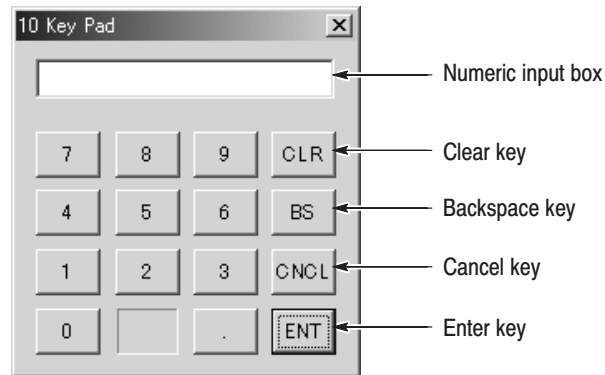

Figure 2-6: 10 key Pad
Numeric Input Using the 10 Key Pad. Perform the following procedure to input numeric values by using the 10 Key Pad. Figure 2-6 shows the 10 key Pad.
3. Press the **SELECT** button to open the 10 Key Pad (see Figure 2-6).